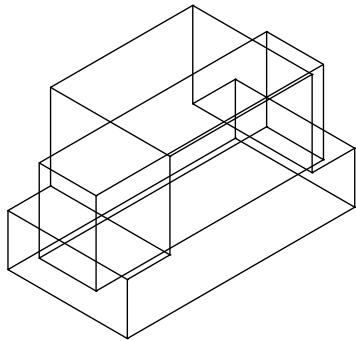

Figure 26-51 Model before subtraction
19. Enter **9** at the Command prompt and press ENTER; the box is moved, as shown in Figure 26-51.